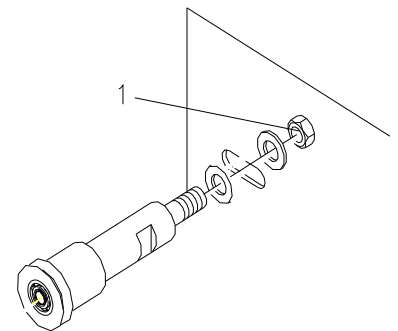

Fig. 6
- Loosen the nut (fig. 6 pos 1) and slide the shaft (pos 2) to the right.
- Tension the v-belt by sliding the shaft (pos 2) to the left, and fasten the nut.